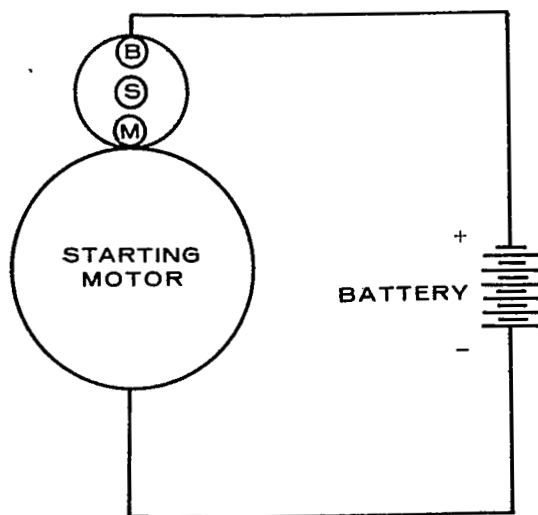
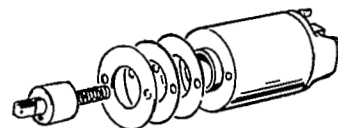

FIGURE 39. BATTERY CONNECTIONS
FIGURE 40. ADJUSTING PINION CLEARANCE
2. To adjust pinion clearance, connect the battery to the starting motor as shown in Figure 39. This will allow the pinion of the starting motor to slide and stop. In this state, measure the clearance between the end of the pinion and pinion stop when the pinion is pushed lightly toward the commutator end. Clearance should be 0.02 to 0.06 inch (0.51 to 1.52 mm). Adjust for proper clearance by removing the solenoid switch attaching screws and select the proper thickness of the fiber packings shown in Figure 40.